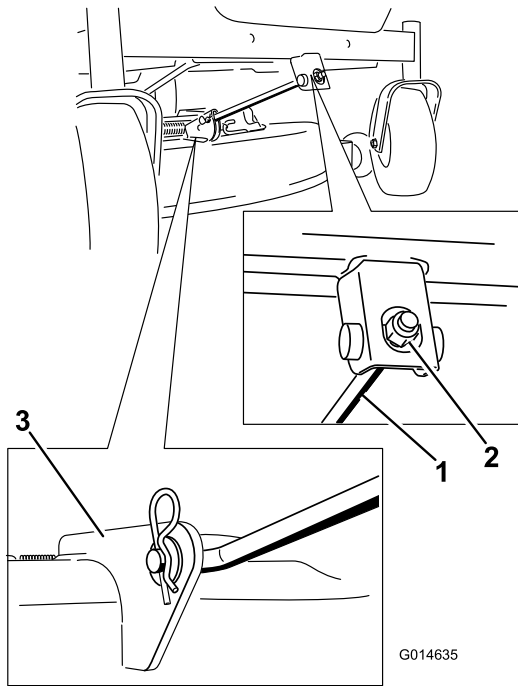

Figure 54
4. Remove the hairpin cotter from the front support rod and remove the rod from the deck bracket (Figure 54). Carefully lower the front of the mower deck to the ground.
5. Lift the rear of the mower deck and guide the hanger brackets over the rear lift rod (Figure 54).
6. Attach the front support rod to the mower deck with the clevis pin and hairpin-cotter pin (Figure 54).